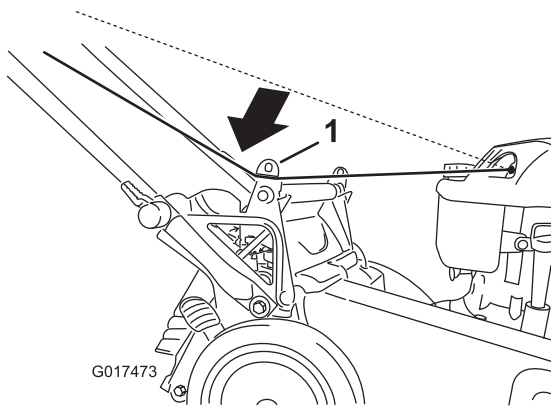

Figure 22
- 1. Route the starter rope around the lower-rope guide (Figure 22).